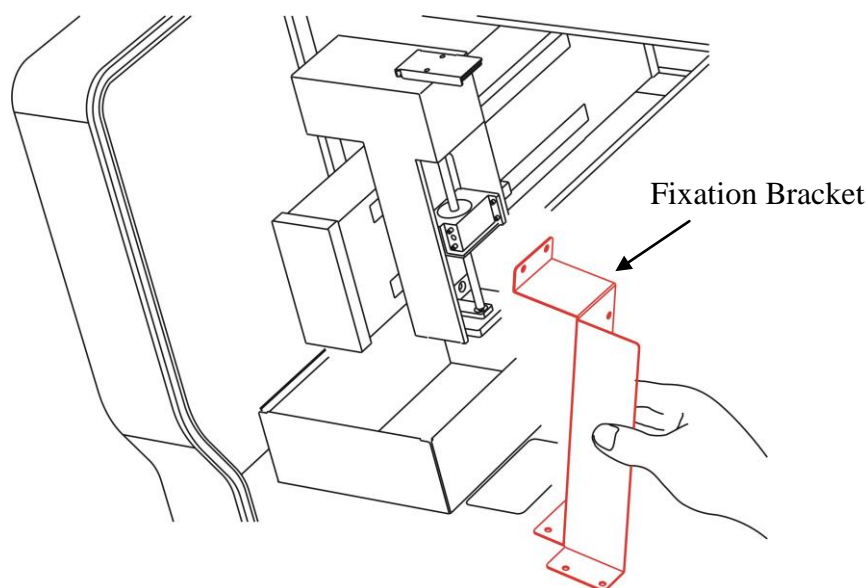

Figure 8. Removal the Fixation Bracket
7. Open the lid and remove the Fixation Bracket (**Red**, Figure 8), used in positioning the Y and Z axes during transportation, by unscrewing 7 screws. Screw the 7 screws back to the original holes.